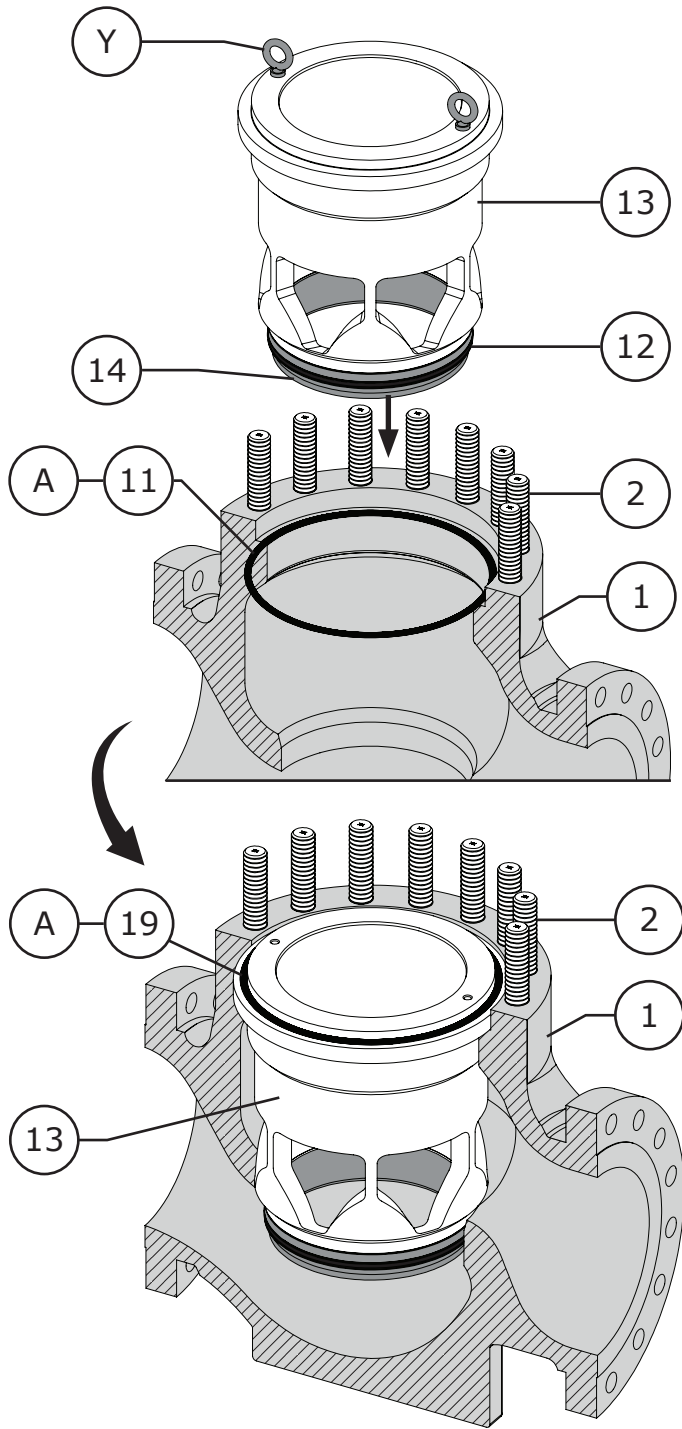

Figure 22 Trim Parts Assembly - 370 (Steps 3 - 5)
- 3 Apply anti-seize compound (Key A) to the top and bottom surfaces of the cage gasket (Key 11). Install the cage gasket as shown in Figure 22.
- 4 Install lifting bolts (Key Y) into the tapped holes of the cage (Key 13). Using the lifting bolts, carefully lift and lower the cage/seat ring assembly (Keys 12, 13, & 14) into the valve body as shown in Figure 22. Remove the lifting bolts once cage/seat ring is in position.
- 5 Apply anti-seize compound to the top and bottom surfaces of the bonnet gasket (Key 19). Install the bonnet gasket as shown in Figure 22.